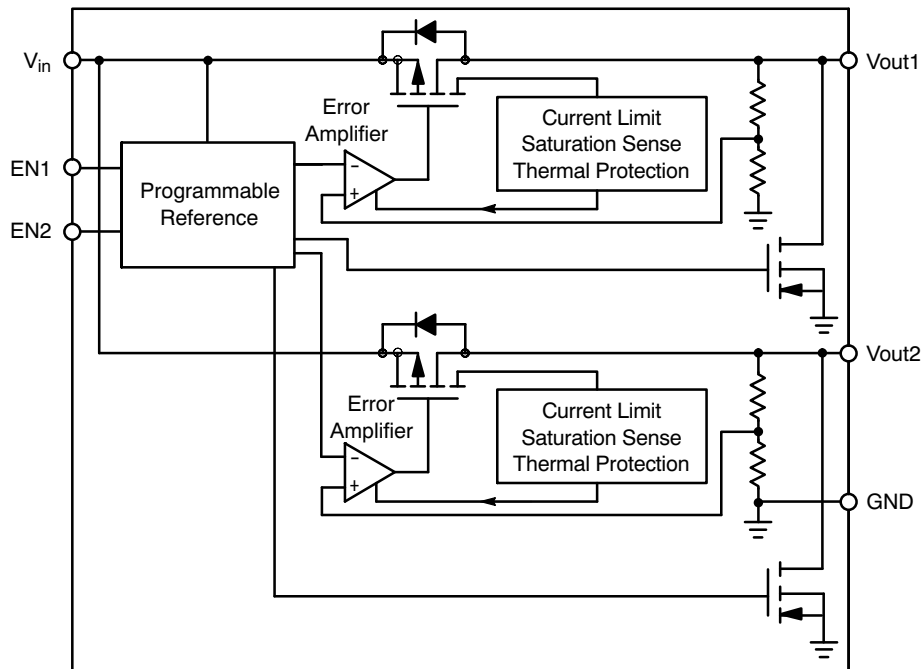

Figure 2. Block Diagram
2. Exceeding this value will turn on the body diode of the PMOS driver (reference Figure 2).